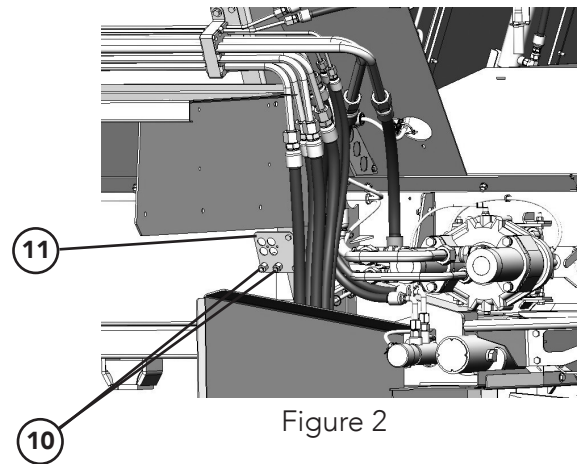

Figure 2
- Figure 2 - Remove the Grease Lines (10) from Bracket (11).